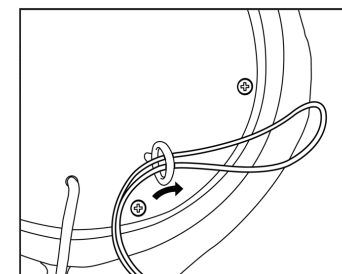

FIGURE 7
2. Take the nylon security cable, supplied with the loudspeaker and fold it in half. Using the middle of the cable, feed it through the Security Attachment Eyelet as shown in **Figure 7**.